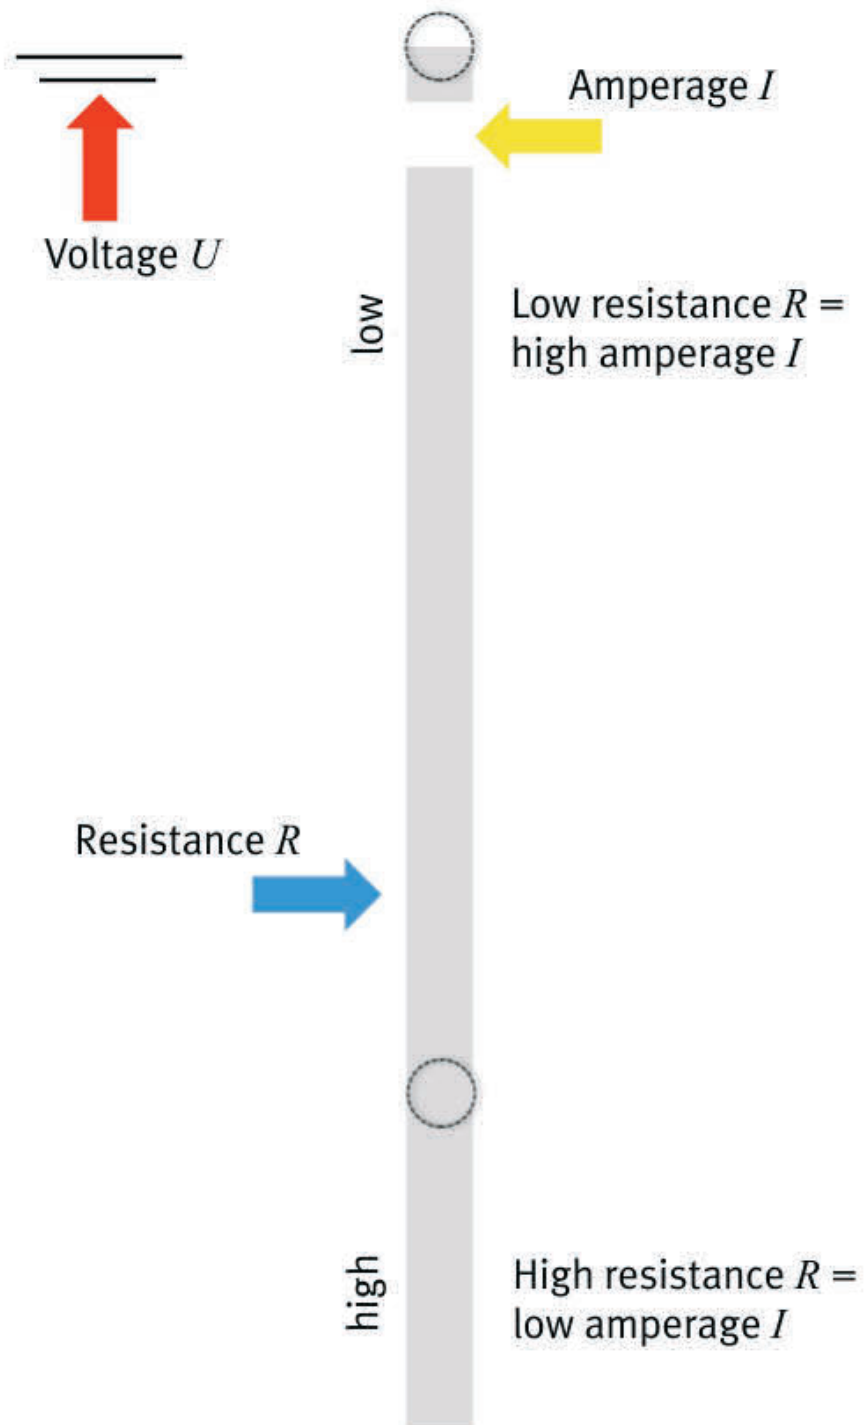

Figure 11: "Dimmer" template
- Secure the template copy (see figure 11) with the 4 magnets.